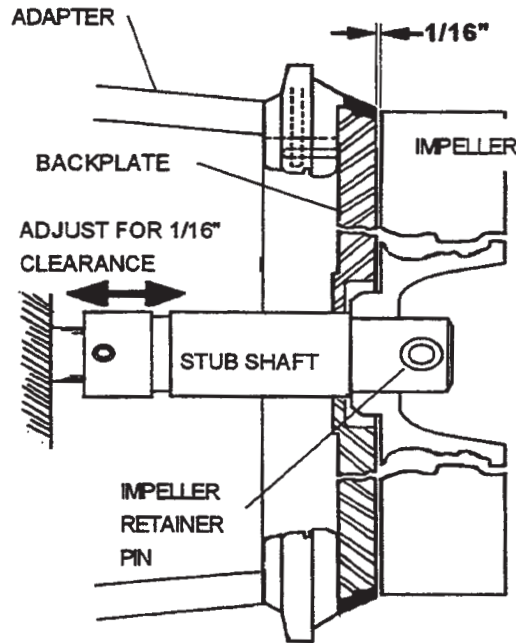

Figure 14
- Slide the impeller onto the shaft. Hold the impeller tight against the shoulder in the shaft and rotate the shaft one-quarter turn until the impeller pin engages with the impeller (see Figure 14).